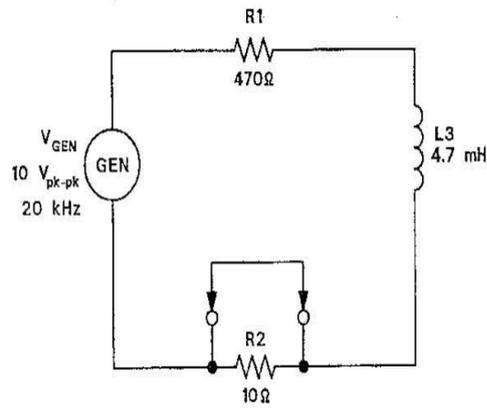

Figure 2-2: Series RL Circuit (ac)
5. Connect the circuit in Figure 2-2. Adjust generator of *Multi-Channel* software for a 10 V_{pk-pk}, 20 kHz sine wave.